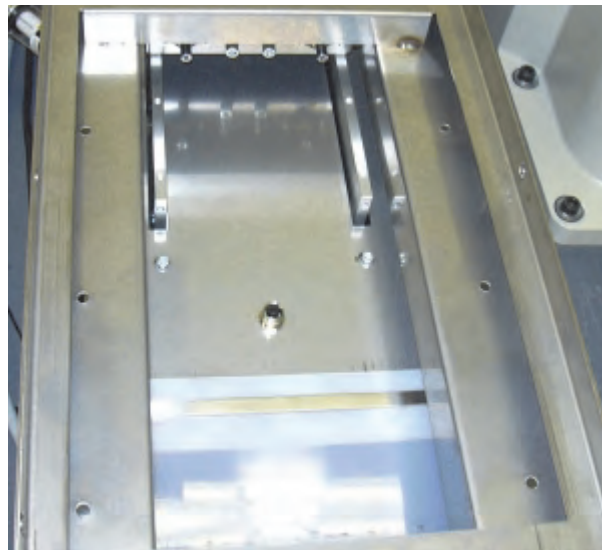

Figure 5-1. Feed Deck and Drive Block
6. After the existing feed surface has been removed, clean all residue from the exposed feed deck. (See Figure 5-1.)